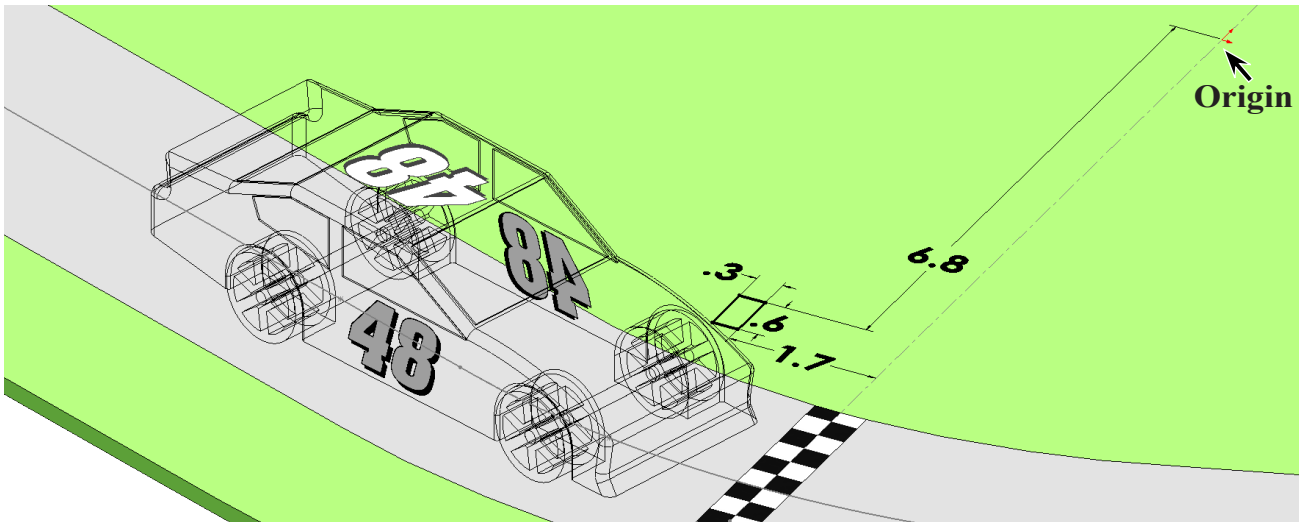

Fig. 6
Step 8. Add dimensions, **Fig. 6**.